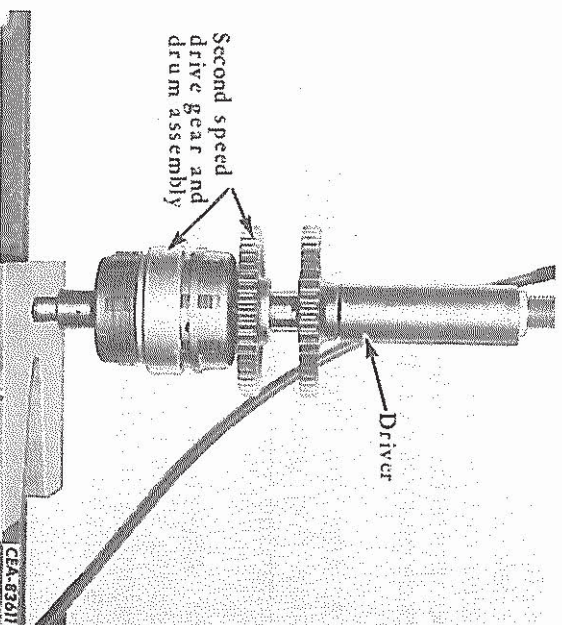

FIG. 67 — Installing the Reverse Driven Gear
23. Place the clutch shaft in a press as shown in Fig. 67 and press the reverse drive gear (reverse driven gear on reverse clutch shaft) over the woodruff key so the long taper of the gear hub is up.